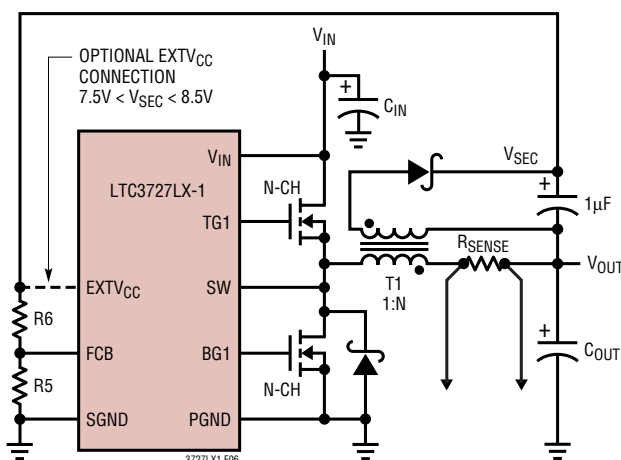

Figure 6. Secondary Output Loop &  $EXTV_{CC}$  Connection
4.  $EXTV_{CC}$  Connected to an Output-Derived Boost Network. For 3.3V and other low voltage regulators, efficiency gains can still be realized by connecting  $EXTV_{CC}$  to an output-derived voltage that has been boosted to greater than 7.5V. This can be done with the inductive boost winding as shown in Figure 6.
The secondary output voltage  $V_{SEC}$  is normally set as shown in Figure 6 by the turns ratio  $N$  of the transformer: